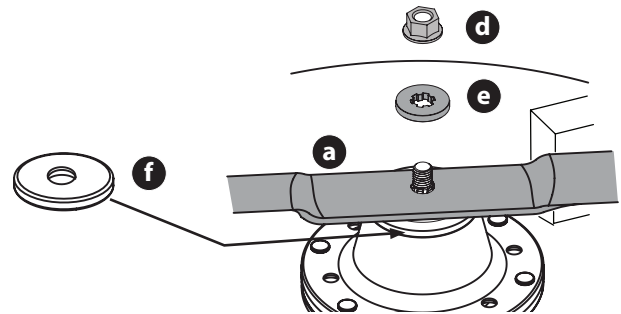

Fig. 44
- Remove the flange nut (d) and flat washer (e) securing the blade (a) to the mower and remove the blade (Fig. 44).
NOTE: 36 Inch Deck Only - A cap (f) is present between the blade and the mower. Before assembly, ensure the cap is in place before installing the blade (Fig. 44).